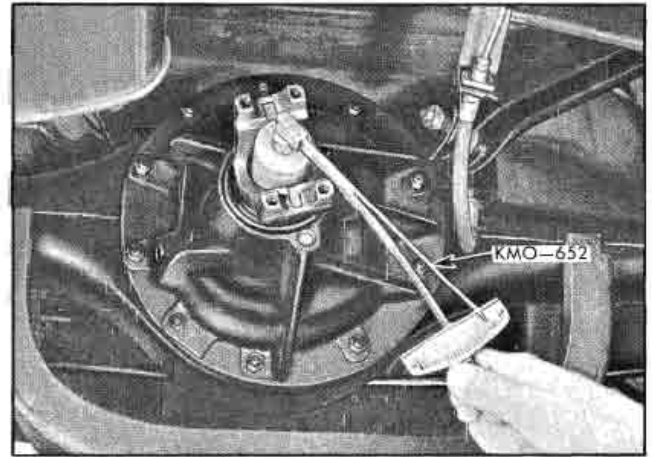

Fig. 4-8 Measuring Pinion Bearing Preload
pinion nut, turn pinion two or three revolutions to ensure free movement, and then take a torque reading while rotating pinion to measure bearing preload (Fig. 4-8). Record reading.
5. Using pound inch torque wrench KMO-652 with adapter KMO-653 and socket placed over drive pinion nut, turn pinion two or three revolutions to ensure free movement, and then take a torque reading while rotating pinion to measure bearing preload (Fig. 4-8). Record reading.